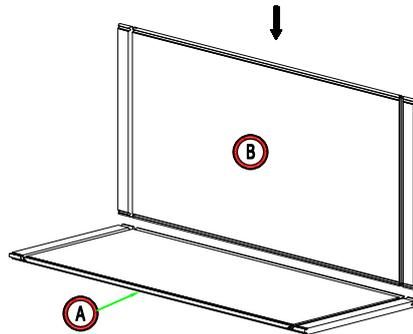

Figure 2
2. Install the Back Panel: Insert the back panel (B) into the groove of the side panel (A) and click it into place. (Figure 2)